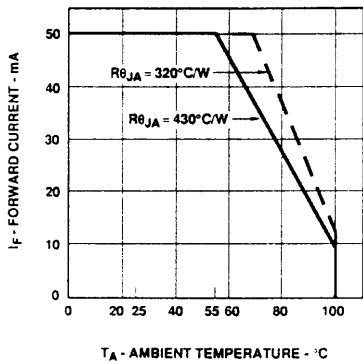

Figure 5. Maximum Forward DC Current vs Ambient Temperature. Derating Based on $T_{J,MAX} = 110^{\circ}C$.
- Derate linearly as shown in Figure 5.